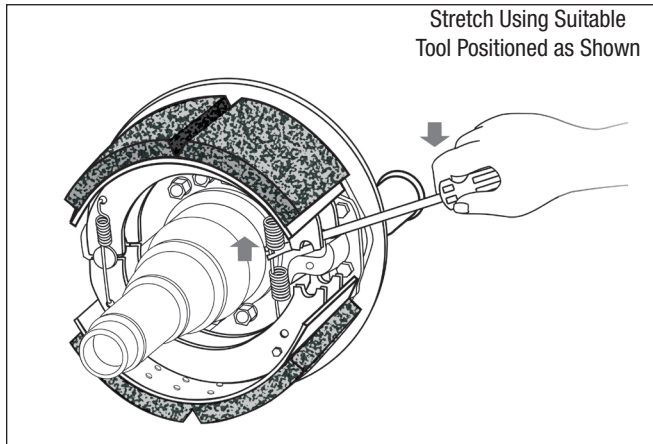

Figure 14 – Bendix® ES™ -165-07D, L Shoe Removal
**NOTE:** To remove the return spring, position a lever or suitable tool—with a notch—to engage the spring rod. Refer to Figure 14. Apply a downward force to stretch the spring, allowing removal of the upper spring hook. Remove and discard the spring.
**NOTE:** Bendix® ES™ -150-06D / ES-165-05D,L,X / ES-165-06D,L,X/ES-165-07D,L,X,Z/ES-165-08Z: steer axle brakes may use two return springs with a horse collar or dual spring post. To remove the return springs, position a lever or suitable tool—with a notch—to engage the spring. Refer to Figure 14. Apply a downward force to stretch the upper spring, allowing removal of the upper spring hook. Remove and discard. Repeat the procedure for the lower spring.